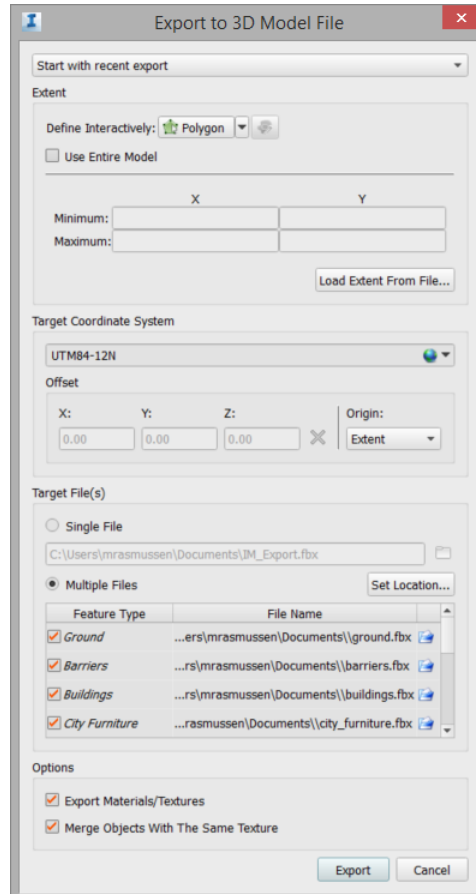

FIGURE 29
2. In the Export to 3D Model File dialog box, do the following, as shown in Figure 29: